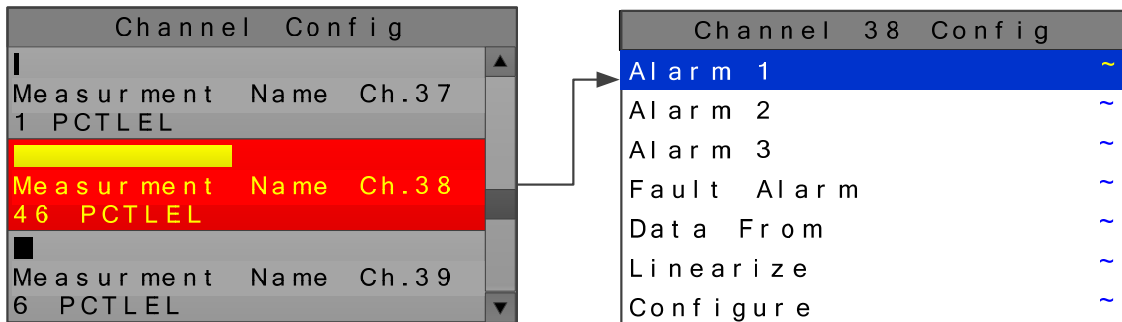

Figure 2-13
**CHANNEL CONFIGURATION** is accessed through the **MAIN MENU**. Once in the **CHANNEL CONFIGURATION** entry menu, show on left in Figure 2-13; use